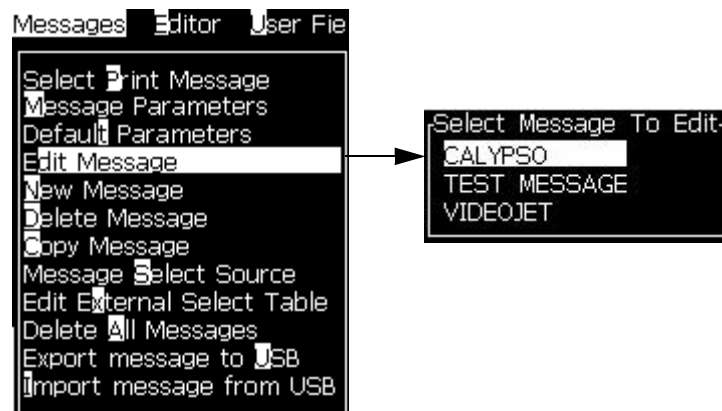

Figure 5-37: Edit Message Option
- 2 Select *Edit Message*. The *Select Message To Edit* dialog box appears (see Figure 5-37).